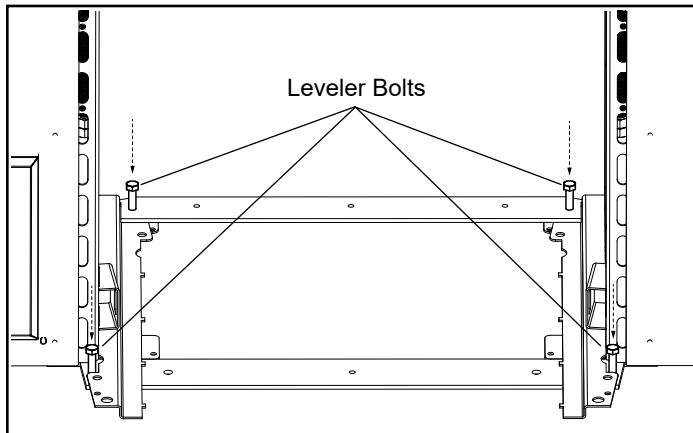

Figure 5.6
The stove is supplied with (4) 5/16-18 Hex Head bolts located in the hardware pack for leg levelers. These bolts should be threaded down through the holes to raise the frame corners as needed to make the frame level as needed, Figure 5.6.